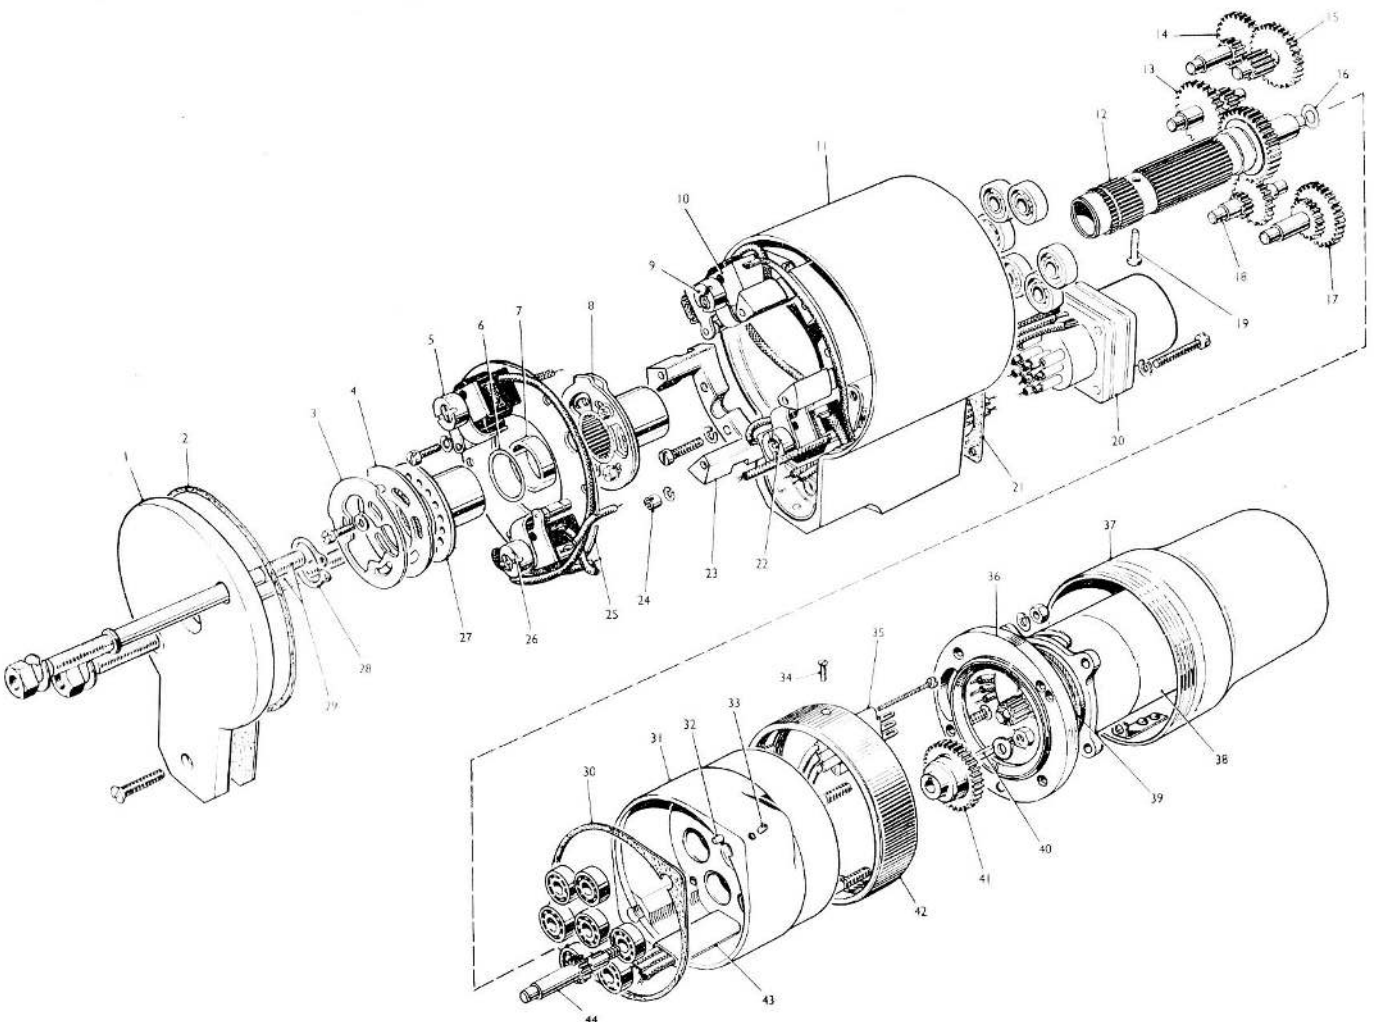

Fig. 7. Exploded view
#### General (fig. 7)
**KEY TO FIG. 7**
(6) Fit the limit switch platform assembly into the switch housing, secure it with the spring washers and screws, and solder the leads to the switches. Loop the leads through the switch terminals before soldering.
(7) Assemble the spacer, shims and outer cam carrier to the output shaft and retain them with a new circlip. Assemble the cams to the cam carriers and adjust as in para. 19 (2) .
(8) Adjust the eccentric cam followers as described in para. 19 (3).
(9) Fit the flange jig plate and perform the travel setting procedure as described in sub-para. (5) above, with the exception that the travel now to be obtained for actuator CZ64581 is 0 deg. to 70 deg. and 140 deg. to 70 deg., and for actuator CZ64581/A 0 deg. to 83 deg. and 166 deg. to 83 deg. See fig. 7. Remove the flange jig plate.
(10) Position a new flange plate gasket, lubricate the output shaft bearing bush, fit the flange plate and secure it with the studs and retaining screw. Fit the grub screws to the studs to secure them.
(11) Lock all drilled screw heads with 22 S.W.G. stainless steel wire.